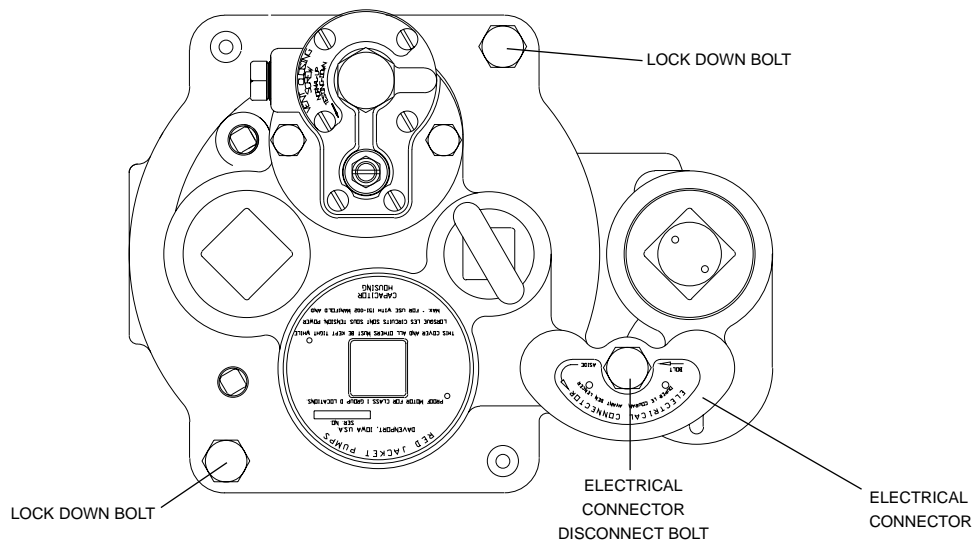

Figure 4.1 Packer
- 1: Back out the electrical connector disconnect bolt. (See fig. 4.1)